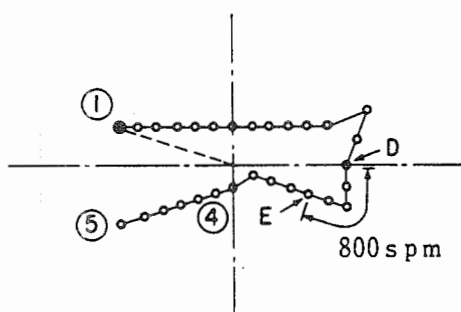

Fig. 8
Step 29 Move the needle to position D shown in Fig. 8.
Step 32 Move the needle using the and keys, and confirm that the sewing speed for the section shown in Fig. 8 has been changed by checking the indication on LED.